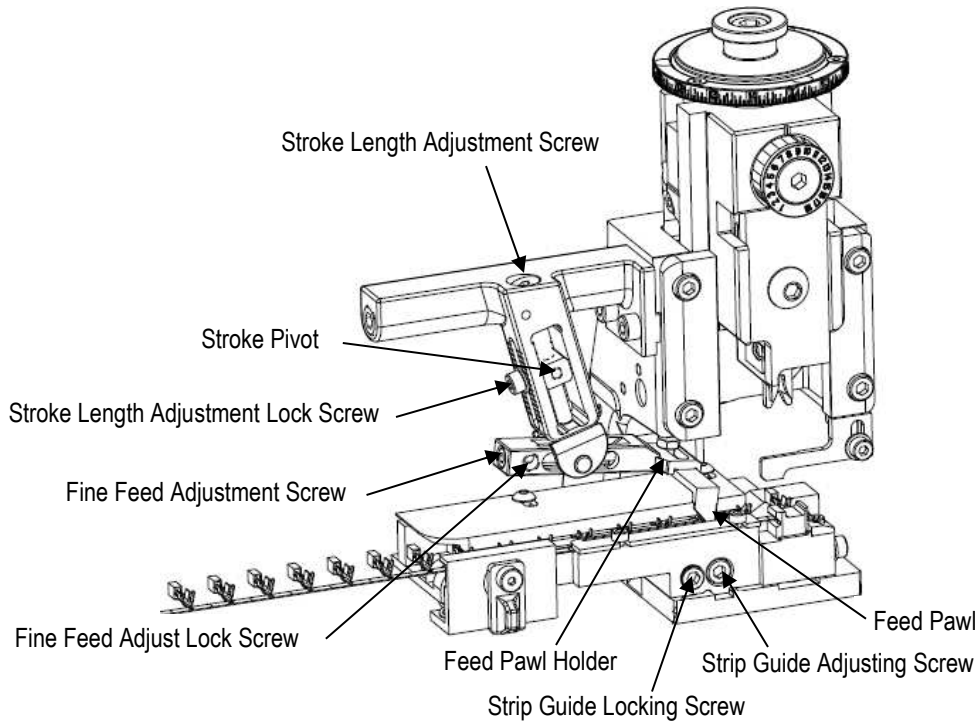

Figure 14
4. Loosen the Stroke Length Adjustment Lock Screw (see Figure 14).
- a. Loosen the Fine Feed Adjust Lock Screw on the side of the Feed Finger Holder to allow the Fine Feed Adjustment Screw to turn (see Figure 14).